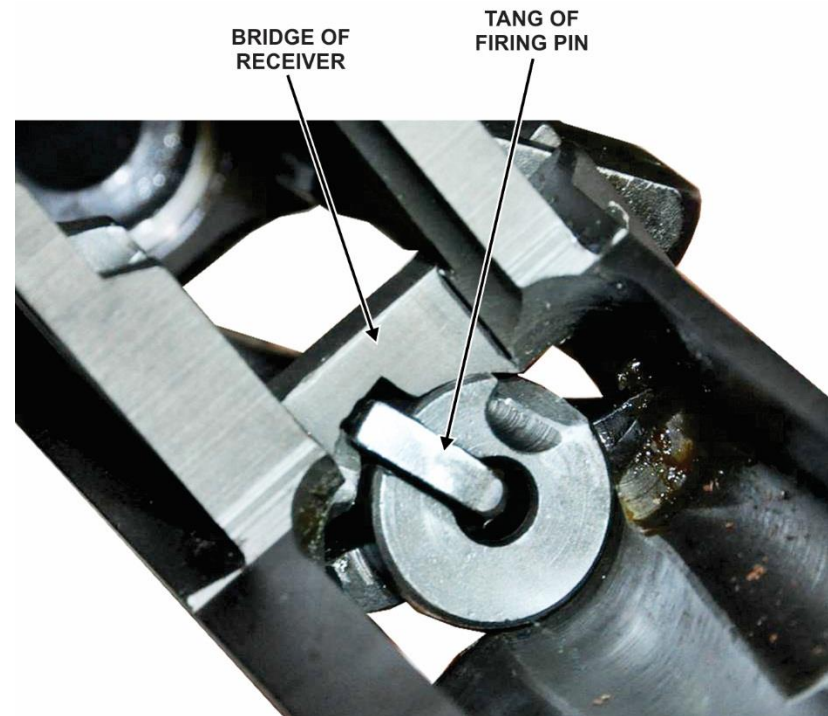

Figure 37. Tang clearing notch in bridge of receiver
- 7) Rotate the bolt so that the tang of the firing pin clears the notch in the bridge of the receiver (fig 37). Align the right locking lug on its bearing surface and slide the bolt to the rear.